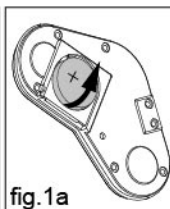

fig.1a
- Remove the battery and replace them with the new one. Be sure Positive (+) side of battery faces up. (See fig.1a).